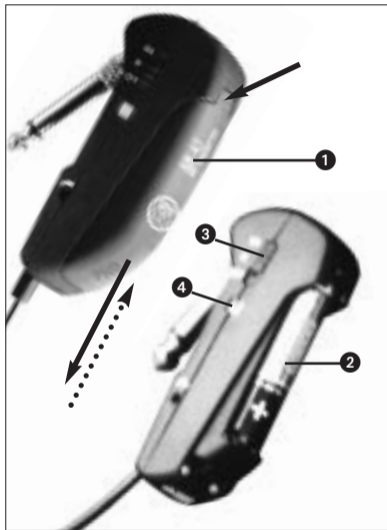

Fig. 2: Inserting a battery.
3.1 Inserting/Replacing and Testing Batteries (refer to fig. 2)
4. Insert the supplied or new battery (2) into the battery compartment as shown in fig. 2.
5. Set the ON/MUTE/OFF switch (3) to ON.